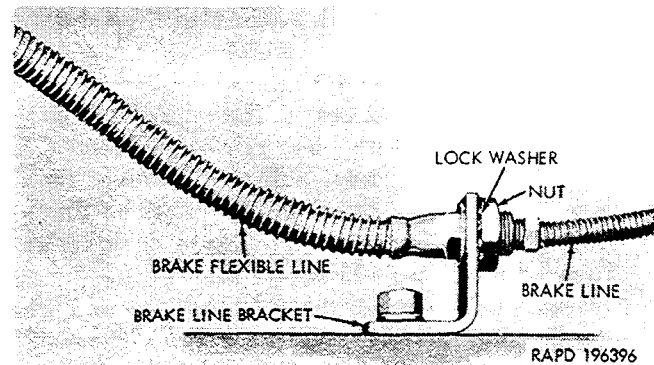

Figure 2-157. Brake flexible line installation.
a. General. If leaks develop in any of the brake lines or fittings or the master cylinder rear vent line (A), replace the affected parts as required.
(1) Disconnect the affected line at both ends, disengage or remove brake line clips and remove the line. Flexible lines to the front wheel cylinders and flexible lines from the frame cross members to the tees on the axles are replaced as assemblies. Disconnect all flexible lines at the brake line bracket end first (fig. 2-157). For other lines provided with covers, remove the cover from the line before discarding the line.
(1) Use seamless tubing, flexible conduit cover, and two fitting nuts for each line. The line (B) from the frame tee (G) to the union (C) at the left frame side rail is 40 1/4-inches long for all models. The line (E) from the tee to the frame bracket (K) is in two sections, joined by a union at the right frame side rail. The front section is 43 3/4-inches long for all models. The rear section is 68 1/2-inches long for the cargo truck M37; the corresponding line for the ambulance truck M43 or telephone maintenance truck M201 is 82 1/2-inches long. The line (D) from this union to the front flexible line is 34 1/4-inches long for all models.
(2) Install the conduit cover and two fittings nuts on the tubing, double flare the tubing at both ends, using a flaring tool. Position the line and shape it as necessary. Screw the fitting nuts to the union and the frame tee or the front or rear flexible line. Install any clips that were removed and engage the line in the clip.
e. Install Brake Flexible Lines. All flexible lines (fig. 2-157) are installed in the same manner, but are not interchangeable.
(1) Connect the flexible line to the tee on the axle or to the inlet fitting at the wheel cylinder.
(2) Insert the threaded fitting of the brake flexible line through the brake line bracket on the